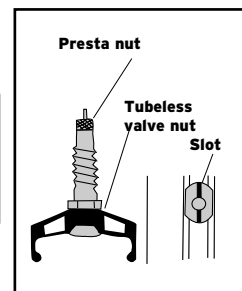
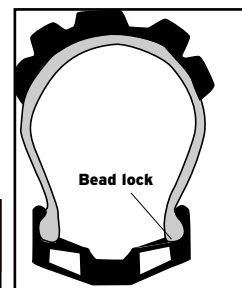

Fig. 1
Fig. 3
2. Align the slot on the head of the special tubeless valve with the rim (Fig. 1). Press the valve stem through
3. Install the tubeless valve nut (Fig. 1) onto the the valve, and tighten firmly. There should be no gap between the valve and the rim strip.
1. Begin to inflate the tire. The tubeless valve stem works just like a standard presta valve. Unlock the presta nut (Fig. 1), and use a pump with a presta fitting. Initially, its best to inflate the tubeless tire as rapidly as possible. This forces the beads out to the rim hook where they will seal (Fig. 3).
2. With the tire beads sealed to the rim hook, inflate the tire to about 60PSI (4 ATM) until the tire beads lock into the rim well (Fig. 3).
3. Visually check that the beads are seated correctly in their locked position(Fig. 3). Most tires have lines or marks running around the casing, just above the bead. When correctly installed, these lines are at an even distance from the rim. When the beads are correctly seated all around the rim, inflate (or deflate) to the desired pressure.